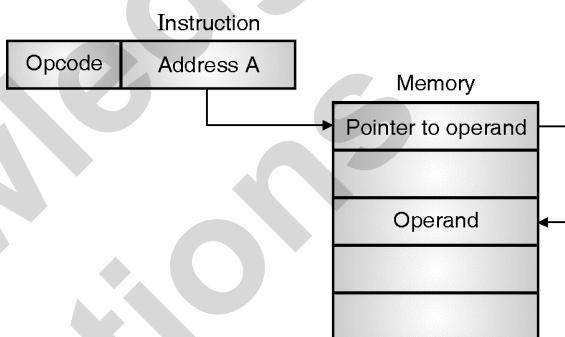

Fig. 10.3.3
- Fig. 10.3.3 shows the structure of an instruction and operand access technique for the indirect addressing mode.